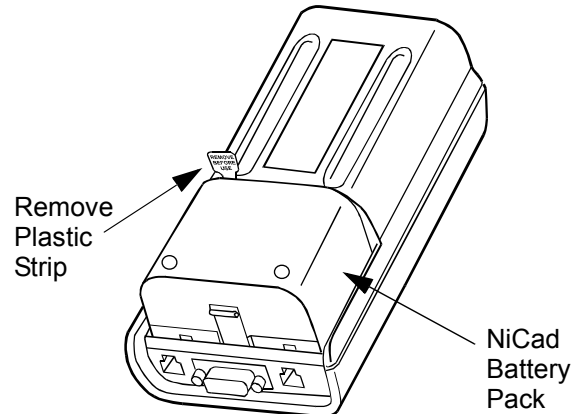

FIGURE 4-1. Activating NiCad Battery
1. To activate the NiCad battery pack, see Figure 4-1. Remove the plastic strip that is visible on the back of the Mastertech. Remove the strip completely.